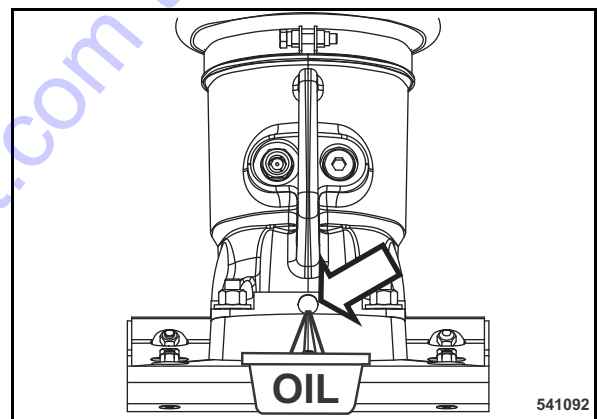

Fig. 72
- Clean and unscrew the oil drain plug (Fig. 72), let the old oil run out and catch it.